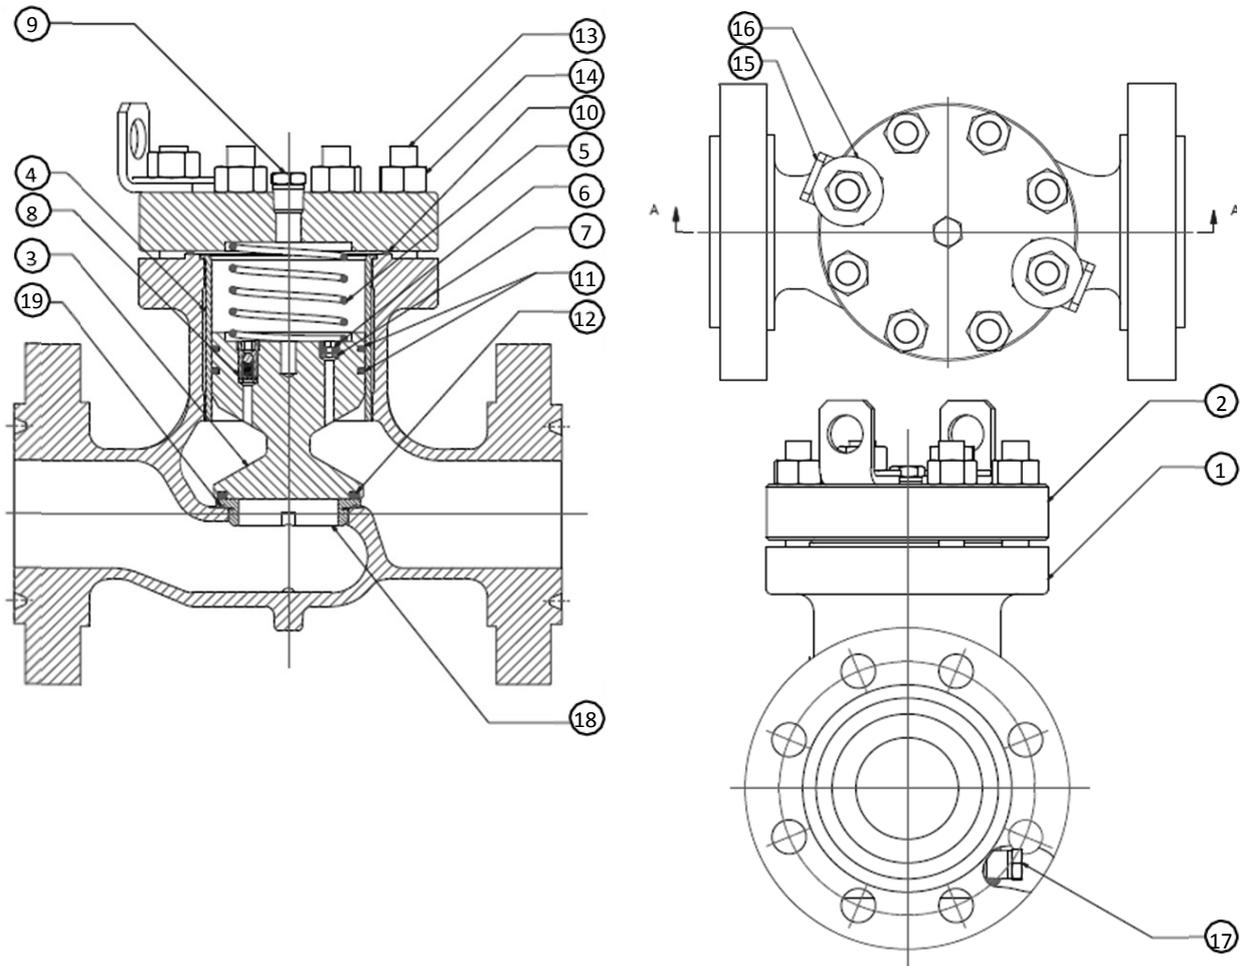
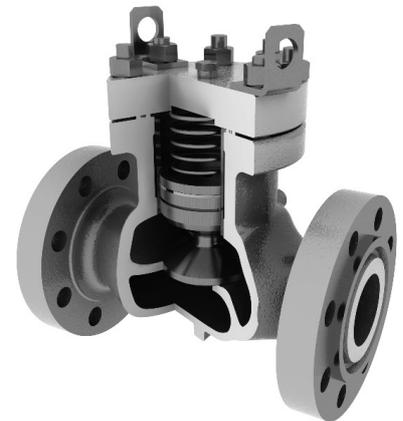

Figure 1 - Tom Wheatley Piston Check Valve
Figure 2 - Integral Seat Piston Check Valve
5. Remove seat (if applicable, Figure 1).
Reassemble the valve in accordance with the following instructions. See Figure 2 (See Figure 1 for valves with replaceable seats).
1. Install seat O-Ring, 18, into O-Ring groove of seat, 19 (Figure 1). A small amount of thick grease may be applied to O-Ring to hold in place during assembly of seat into body.
2. If applicable, thread seat into body, 1 (Figure 1) ensuring that seat is in full contact with body seating surface.